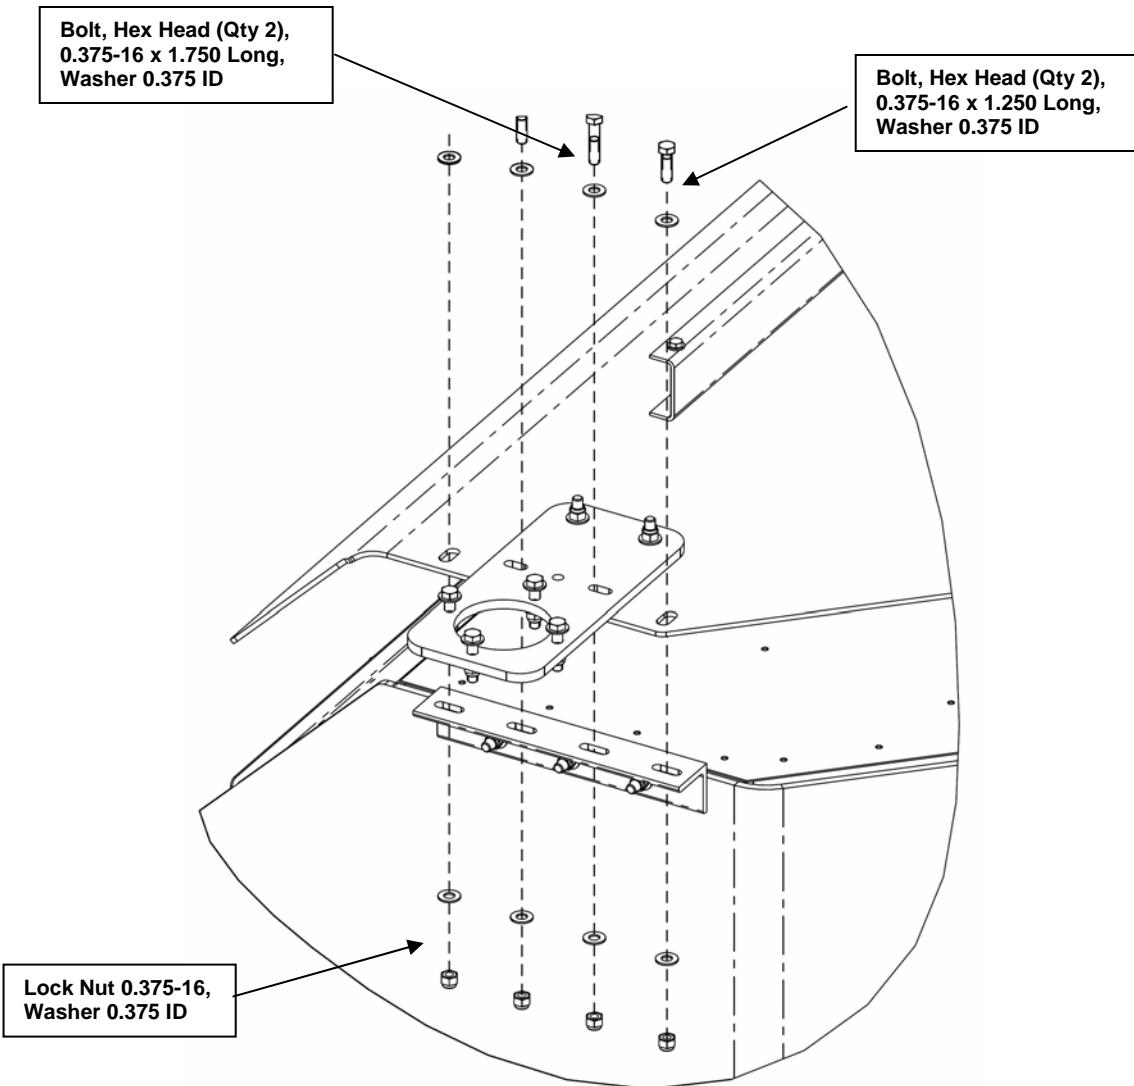

Figure 42. Installing the Antenna Mount, Left Side.
- h) Attach the Left Rear Panel to the roof using the hardware shown in Figure 42. Do not fully tighten the bolts at this time. Tighten the bolts such that the top of the top surface of the angled bracket is 0.00 to 0.60 in. from the bottom surface of the roof panel.
When installing the Rear Left Panel to the Armored Roof Panel, loosen the two bolts that attach the Side Rear Panel Assembly to the Rear Left Panel. This will allow the parts to move into the correct position as the bolts shown in Figure 42 are tightened.